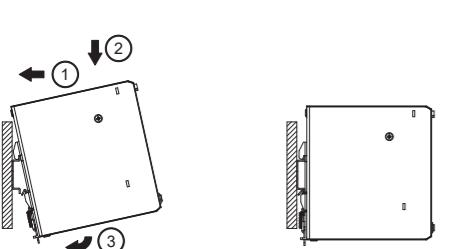

Figure 2
#### 3. Mounting (Fig. 2)
- Tilt the unit slightly upwards and put it onto the DIN rail. Snap on the DIN rail as shown in Fig. 2.